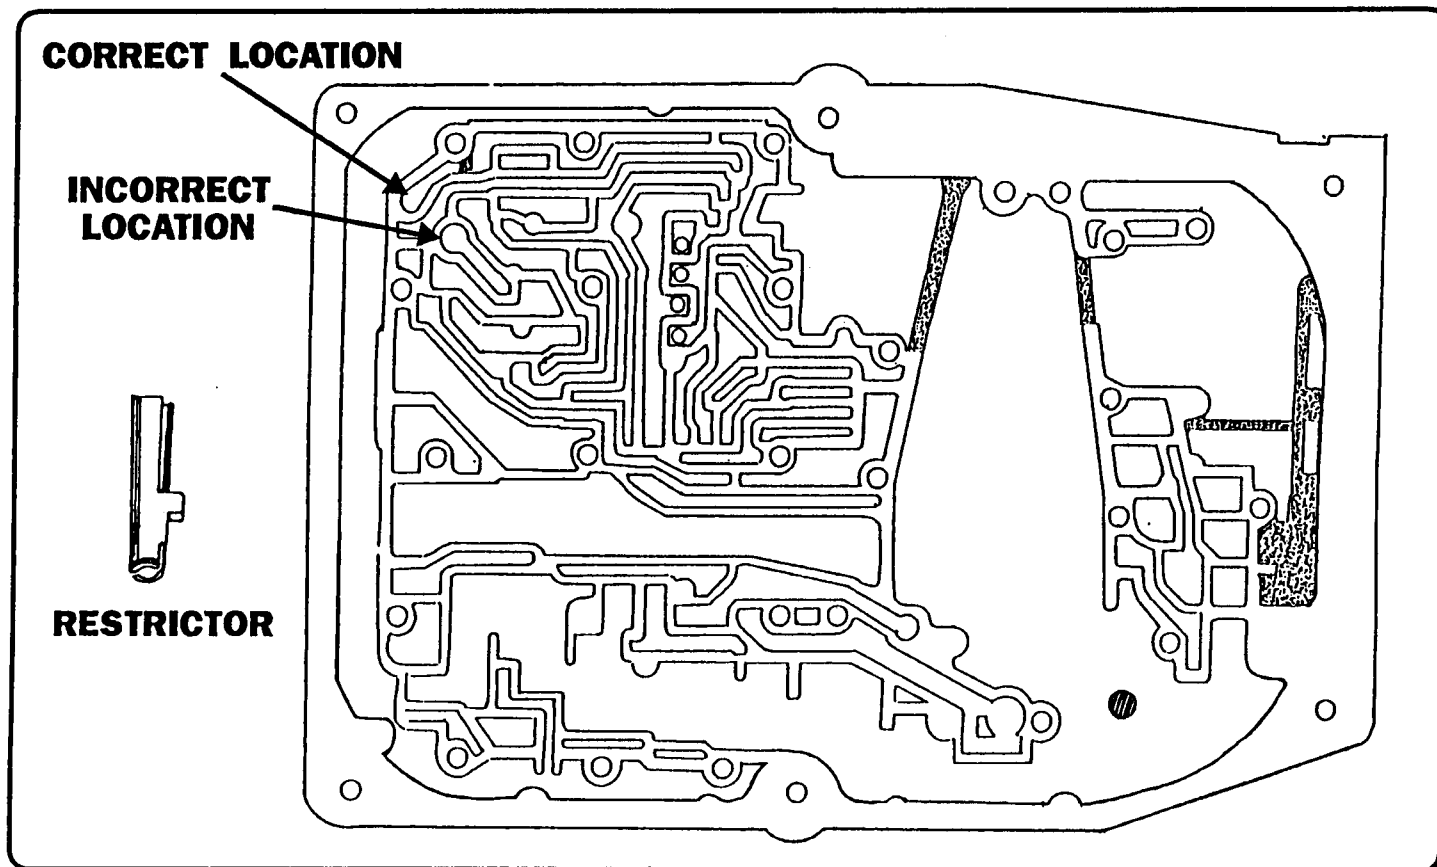

Figure 1
The TV valve line-up is different in the Mercedes models 420 SEL, 560 SEL and SL models. This change was made the the 1986 model year. Figure 1 illustrates the valve line-up.
CORRECTION:Make a 30 degree chamfer around the out diameter of the top (outside land) on the piston. The servo cover side, as shown in Figure 1.
CORRECTION: Install the Mercedes tapered oil restrictor Part no. 123 277 0319. into the transmission case as shown in Figure 1. Note that the restrictor goes in tapered end first and fits snug in the case.
- c. The gasket on the large intermediate plate shows severe swelling or a green slimy coating (upper right arrow in Figure 1).
- d. The intermediate plate shows signs of corrosion under the gasket (lower left arrow in Figure 1).
(Figure 1)
We have illustrated the separator plate ID in Figure 1 for both the regular 722.3 valve body and the 722.4 which is the 190E plate. You will note that the "regular" six bolt pan plate has a large opening where as the 190E opening is split. The arrows point to the locations on the plate. The regular plate (722.3) has a late and early version. The early will NOT fit the late valve body but the late will fit the early. Note the difference. The late has a square hole instead of the two orifices in the early. This is the position of the valve body screen.
CORRECTION: Replace ball valve, part #201 270 03 89, and install retaining washer (24), part number 000 463 008403 (Figure 1).
CORRECTION: *Replace steel disks K-1, bellville washer, and retaining ring (Figure 1).*